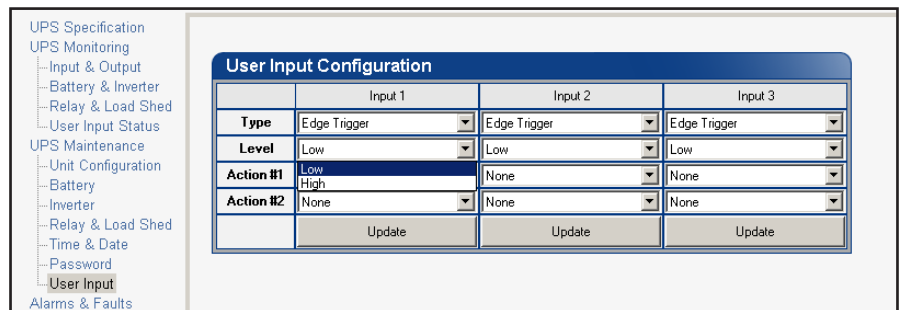

Figure 7.39 – User Input Configuration: Setting the Logic Level
4. Select **Low** from the **Level** drop down menu. The User Input will go to logic level "low" whenever it is triggered. (Figure 7.39)